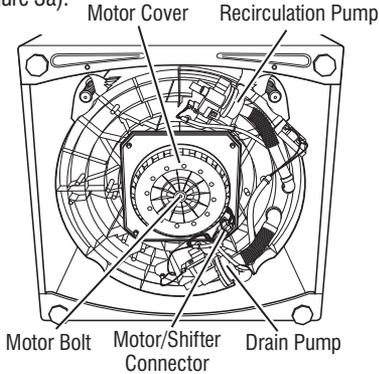

Figure 3a - Drive Area, Viewed From Bottom, Sound Pad (If Equipped) Removed
9. Tilt washer back and remove sound pad (if equipped) to access the drive system (see Figure 3a).
7. Tilt washer back to access the bottom of the washer and the drive motor area (see Figure 3a, page 16).